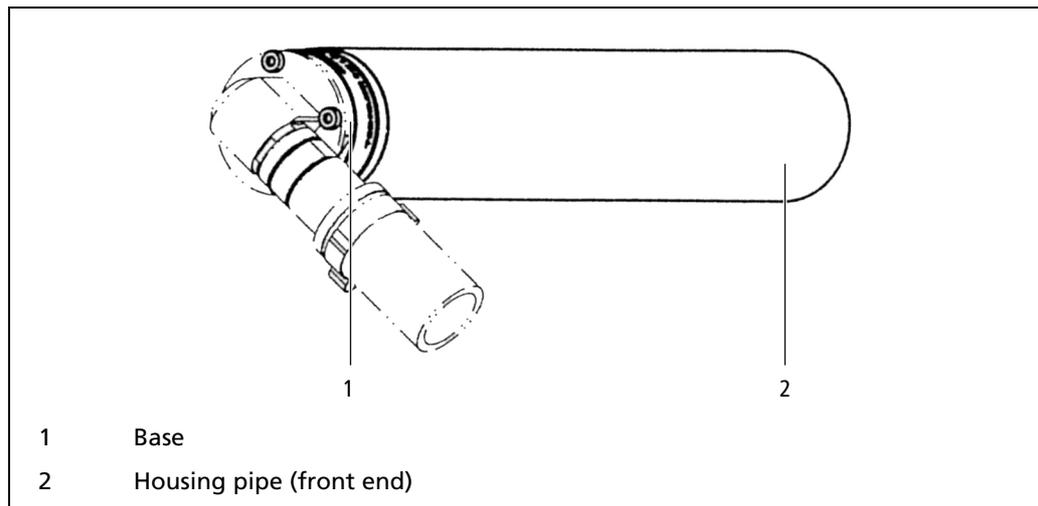

Fig. 35 GAMMAcast detector LB 6739 with housing pipe
2. Fix the base (Fig. 35, pos.1) using a spanner.
3. Carefully screw on the housing pipe using pliers. Only use the pliers at the front end of the housing pipe (Fig. 35, pos.2). Ensure that the housing pipe is not deformed in any way.